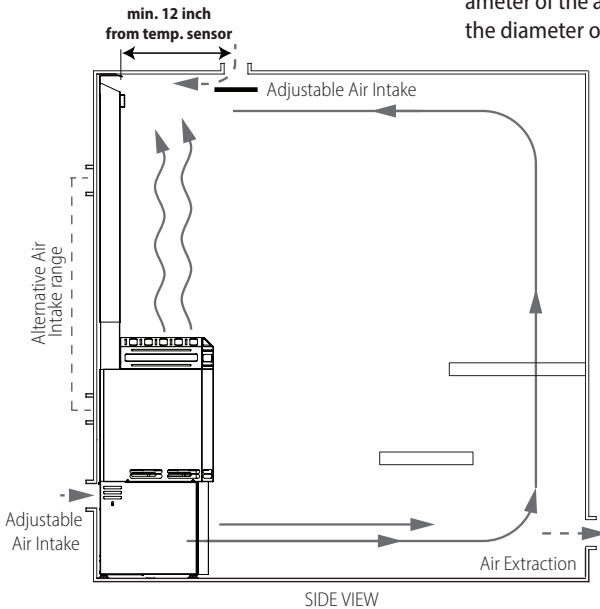

Figure 1
- The dimensions of the device are shown in **Figures 1** (see pages 25).
It is also necessary to prepare the air intake and exhaust air of the steam room in advance as shown on **Figure 1 & 2** (pages 21 and 22) and preparation for directing the cables of the device to the adjacent dry room.
\* Recommended location of the air intake hole. Exact location may vary. See Figure 1 & 2.